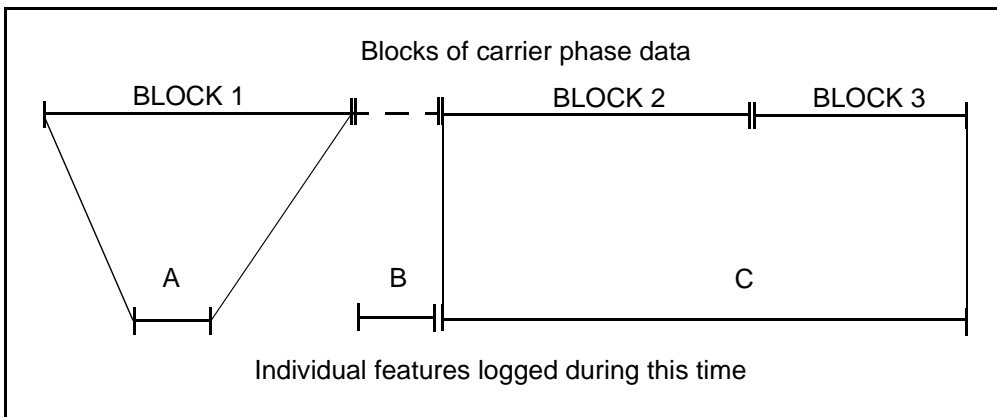

Figure 7.3 Features relative to blocks
*Note* – This is possible because all features recorded during a block achieve the precision associated with that block (see Figure 7.3). In earlier versions of the Asset Surveyor software, a point feature could only use carrier phase data collected while that point feature was being recorded. Data collected before or after that did not affect the feature.
Figure 7.3 shows how individual features benefit from blocks of carrier phase data stored at the time they were recorded.
Feature C was started when the counter started for Block 2. Logging to this feature continued after the success beep. Then there was a loss of lock and a new block of carrier phase data started. The feature was ended before the success beep sounded for this block of data, and the file was closed. In this case, the portion of the feature collected up until the loss of lock, indicated by the end of Block 2 in Figure 7.3, should achieve the desired precision. However, the second portion of the data, associated with Block 3, may not achieve the desired precision.